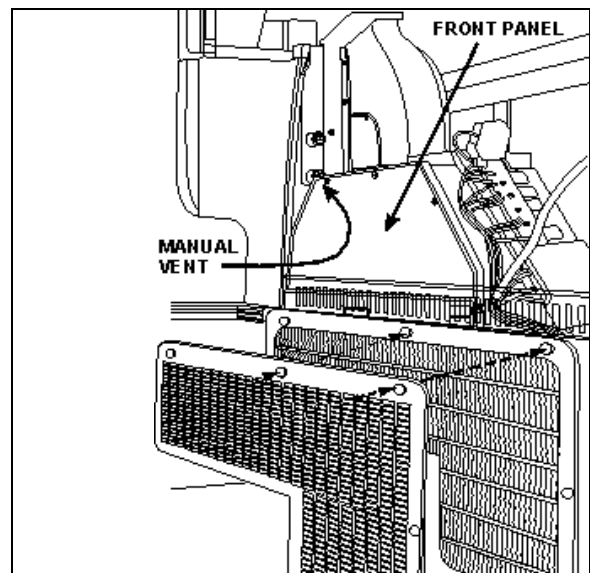

FIGURE 69: DRIVER'S HVAC/DEFROST UNIT
4. From inside of vehicle, remove the two finishing panels in front of unit. Remove the three screws fixing the unit front panel. Open the purge valve located inside the driver's unit (Figure 70). If present, open the manual vent located inside the HVAC unit, on the driver's side (Figure 69) to ensure an efficient draining.
Whenever the heating system has been drained and refilled, or the system has run low on coolant and coolant has been added, it is necessary to bleed air from heating system. Locate the purge valve illustrated in Figure 70 & Figure 75, and open them momentarily until no air escapes from the lines. If present, open the manual vent located inside the HVAC unit, on the driver's side (Figure 69).